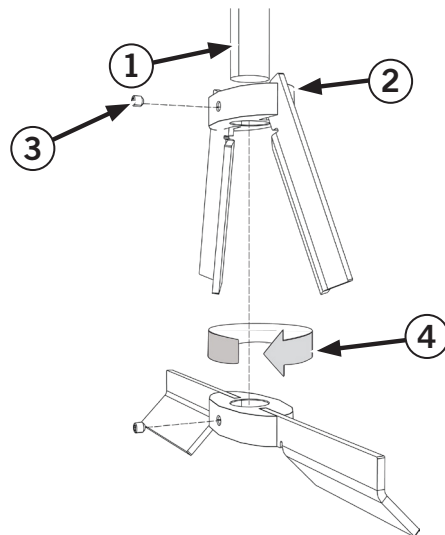

Figure 11. Folding Impeller
1. Install the FLP (2) into the shaft (1) noting the specific orientation, see rotation (4) in Figure 11. Folding Impeller.
2. Secure with a set screw (3) and tighten to specification.